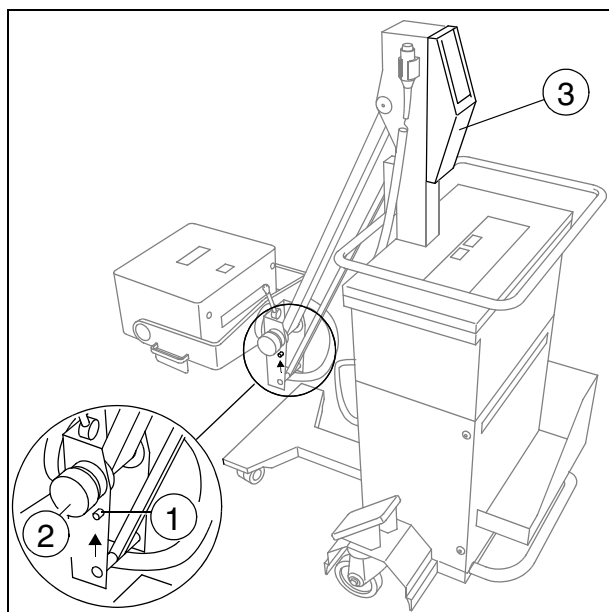

Fig. 20
- Loosen the rotating knob (2/Fig. 20) and unlock the C-arm (1/Fig. 20).
- Remove the cover (3/Fig. 20) at the stand.
- Release the supplemental brake at the C-arm (2/Fig. 20) completely.